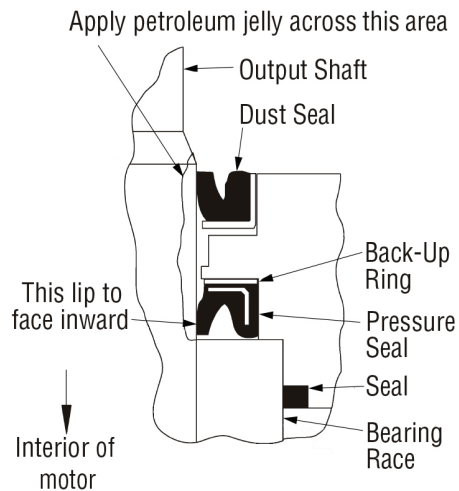

Figure 5-31, Output Shaft Lubrication
16. Before installing the mounting flange and seal assembly over the shaft, place a protective sleeve or bullet over the shaft. Then lubricate the space between the exclusion seal and pressure seal, as well as the lips of both seals. (Figure 5-31)